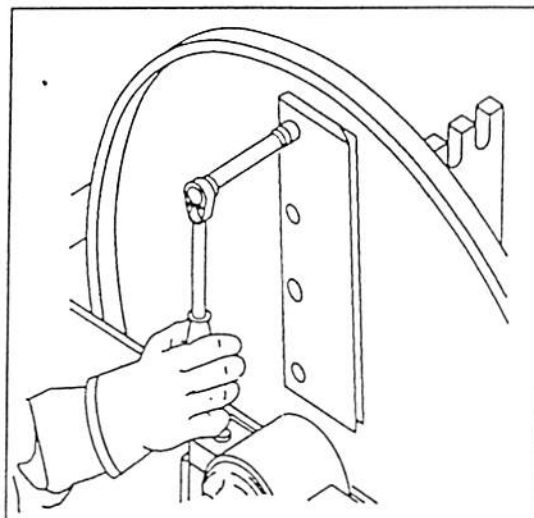

Fig.11.
2. Remove the knife-fastening bolts, they are threaded through the disk (socket size 17mm or  $\frac{11}{16}$ "). Turn the wrench so that your knuckles will not touch the knife if the wrench slips. Use gloves. See fig.11.